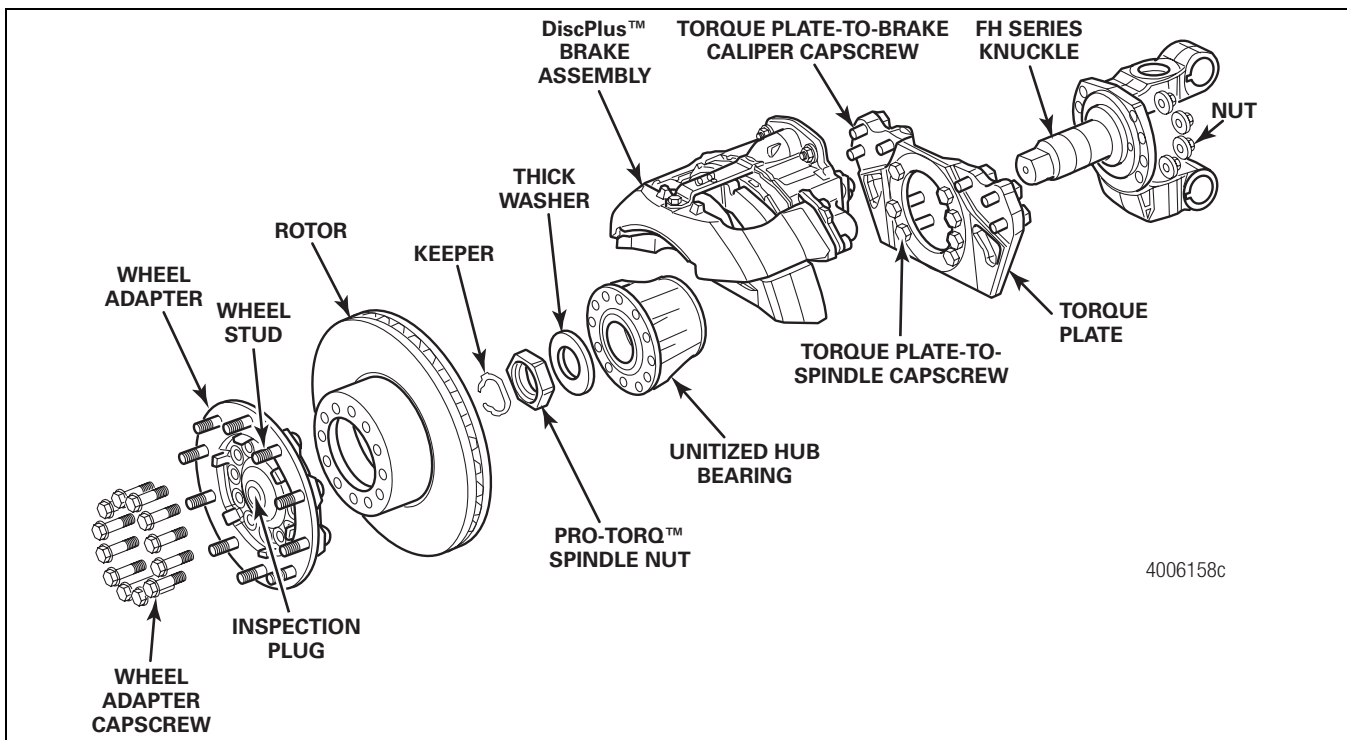

Figure 13.20
1. Verify that the wheel is mounted correctly and all wheel-end fasteners and hardware are tightened to the correct specification. Figure 13.20.